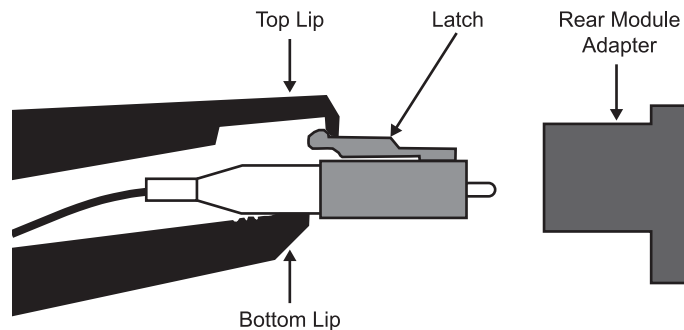

Figure 2.6 Positioning the Optic Cable Tool — Single-Latch Connector
2. Position the bottom lip of the Optic Cable Tool on the connector boot, ensuring that the top lip makes contact just behind the notch at the end of the latch. (**Figure 2.6**)